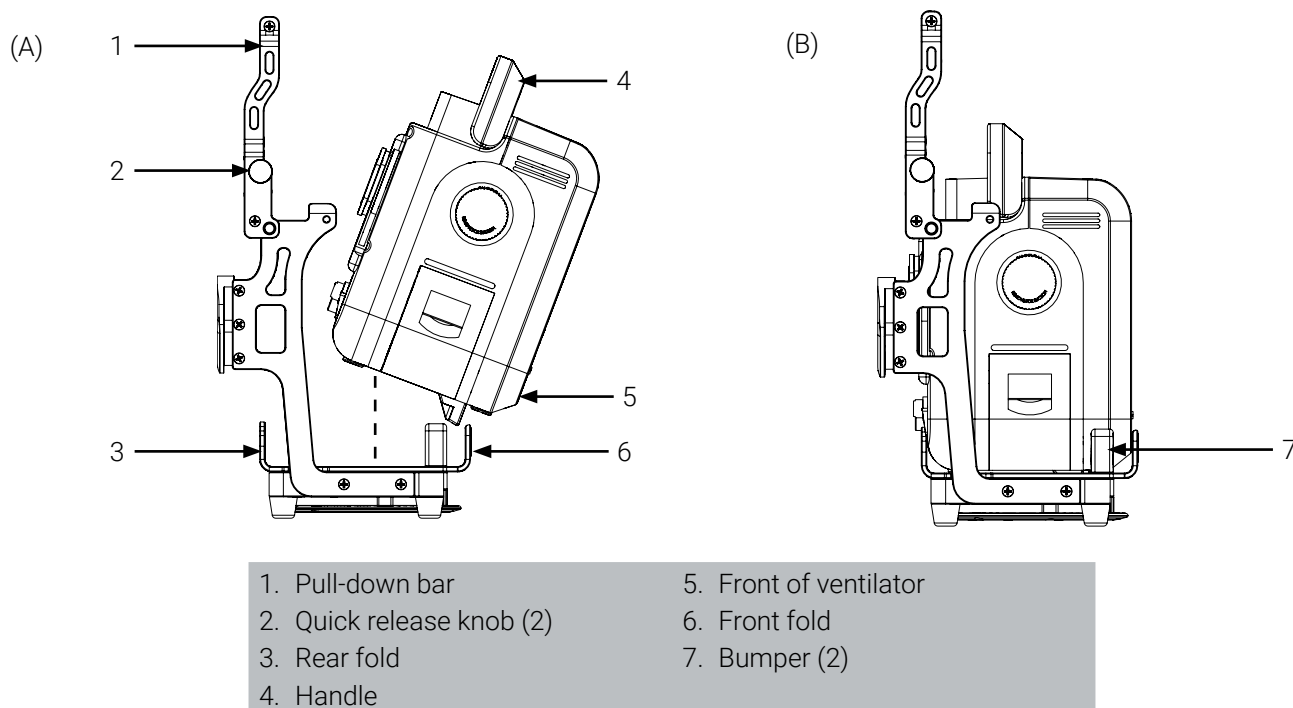

Figure 2: VOCSN ventilator installation in Bracket Pro Serie 280
2. Lift the VOCSN ventilator using the handle (Figure 2 A).
3. Angle the ventilator forward and lean it against the front fold of the bracket to insert it in the mounting system (Figure 2 A).
4. Lean the ventilator backwards to place the ventilator in an upright position, between the 2 folds and centered between the 2 bumpers. Once installed, leave the ventilator handle up (Figure 2 B).